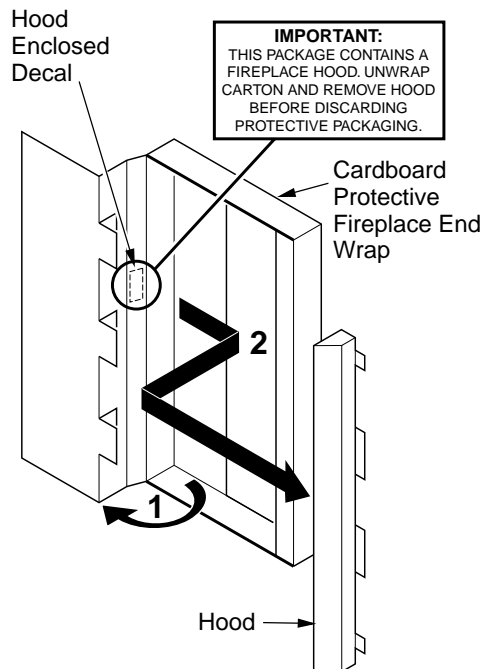

Figure 2 - Removing Fireplace Hood
1. Remove log box and fireplace from carton. **IMPORTANT:** The fireplace hood is inside the cardboard protective end wrap on the left side of fireplace (as viewed from front). A decal is on the outside of the cardboard end wrap stating hood is enclosed (see Figure 2).
2. Remove hood from cardboard protective end wrap as shown in Figure 2.